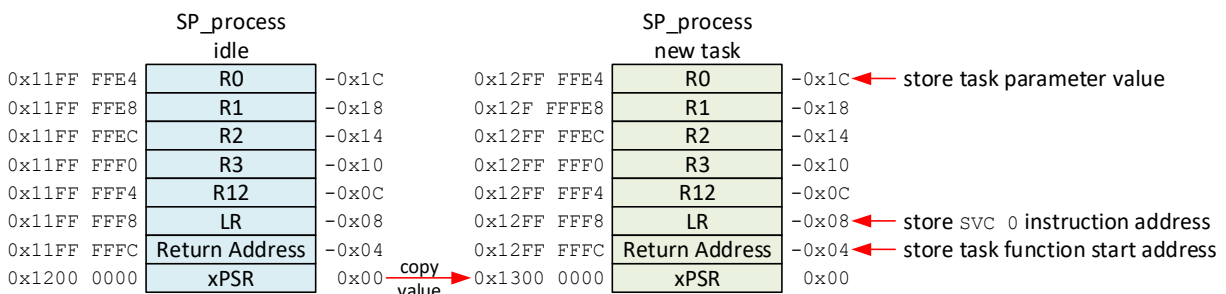

Figure 3 Fixing process stack for the new task (in this case old stack is from idle task but it will be similar if other task was executing before)
- b. set PSP to point to new task specific process stack (in Figure 3 it's 0x12FF FFE4, processor will unwind stack and restore respective registers during interrupt exit procedure).